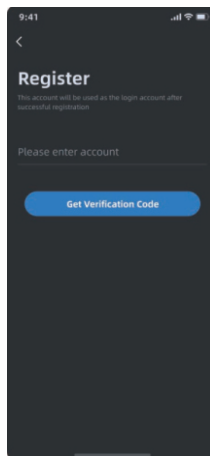

Figure 4
4)Figure 4: Enter the account and click "**Get Verification Code**" to enter the verification code page.